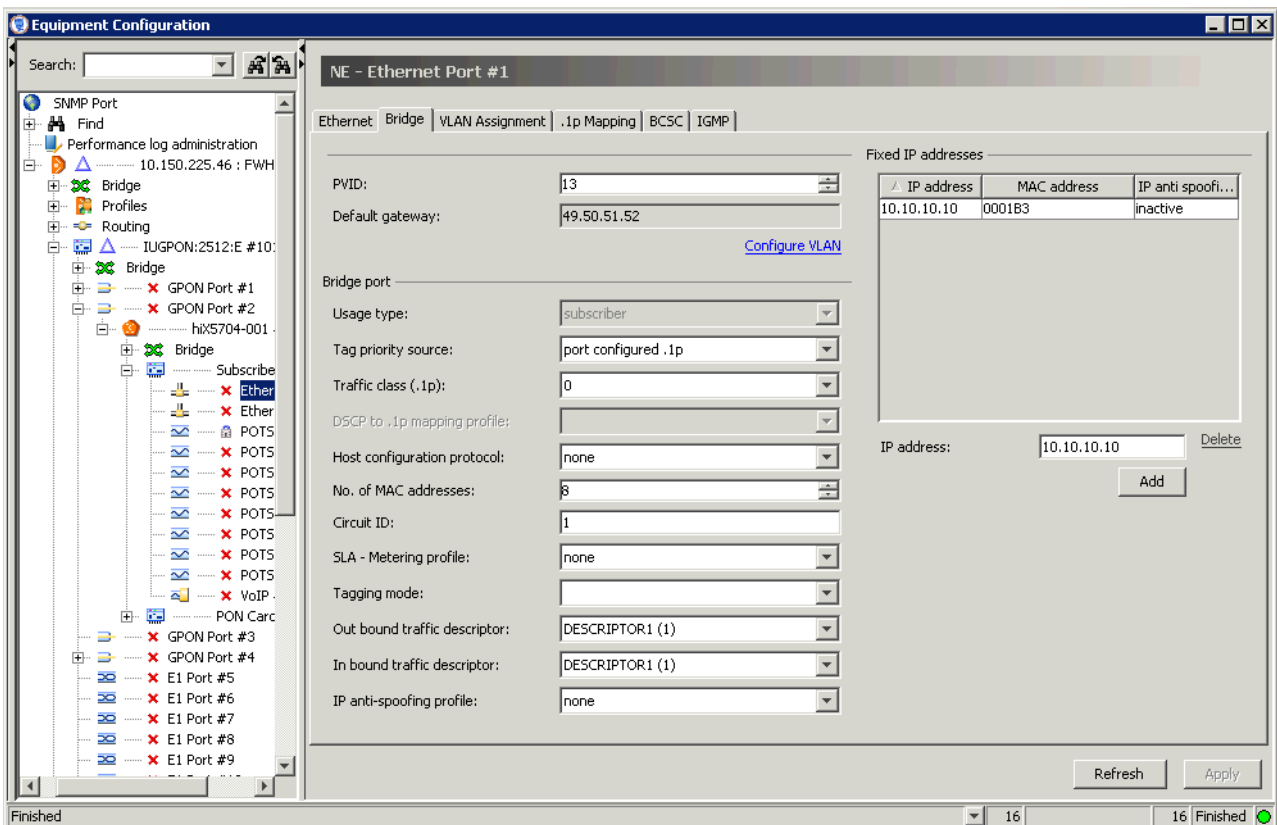

Figure 72 IP Anti-Spoofing - Port Configuration
1. Click “NE:hiX5750 ⇨ IUGPON:2512:E:# ⇨ GPON Port# ⇨ ONT/MDU Type ⇨ (UBGPON:2512:E#3) ⇨ Subscriber Port#2 ⇨ Ethernet Port# (xDSL Port#)” and select the “**Bridge**” tab, see Figure 72.